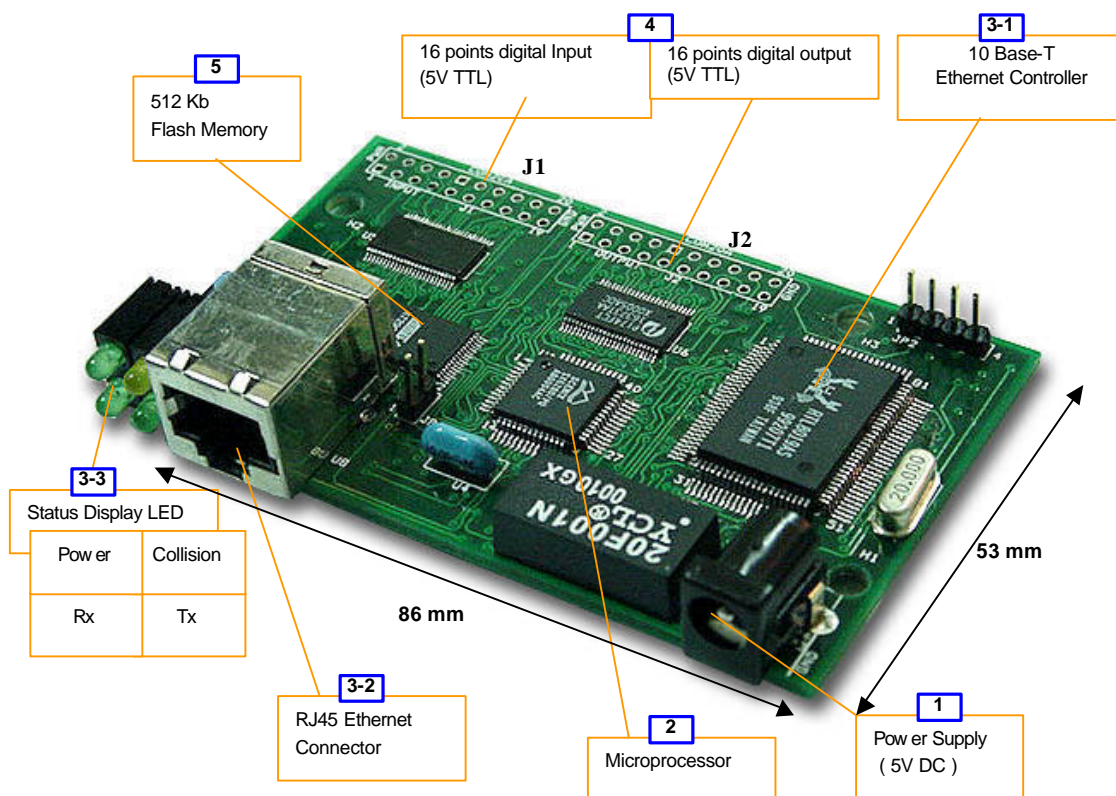
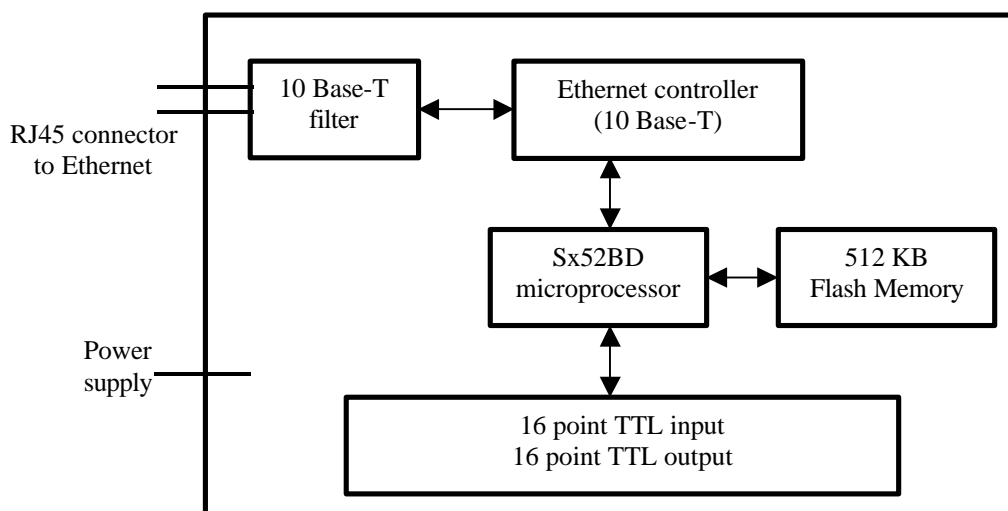

Figure 3.1. HelloDevice 1100 Configuration and Components
Figure 3.2. HelloDevice 1100 System Block Diagram
The hardware configuration and the system block diagram of the HelloDevice 1100 Main Board are shown below in Figure 3.1 and Figure 3.2. (The board layout in Figure 3.1 may be slightly different from the layout of the HelloDevice main board in the Starter Kit for the performance improvement.)
- 52-pin PQFP (See Figure 3.1, Part [2])
The Ethernet Controller provides the functions of framing and addressing data, and detecting and avoiding errors and collisions (See Figure 3.1, Part [3-1]).
- Shielded Connector compliant with AT&T258 specifications (See Figure 3.1, Part [3-2])
There are four status indicator LED's which indicate the following: (See Figure 3.1, Part [3-3]).
(See the [Status LED] in the Figure 3.1)